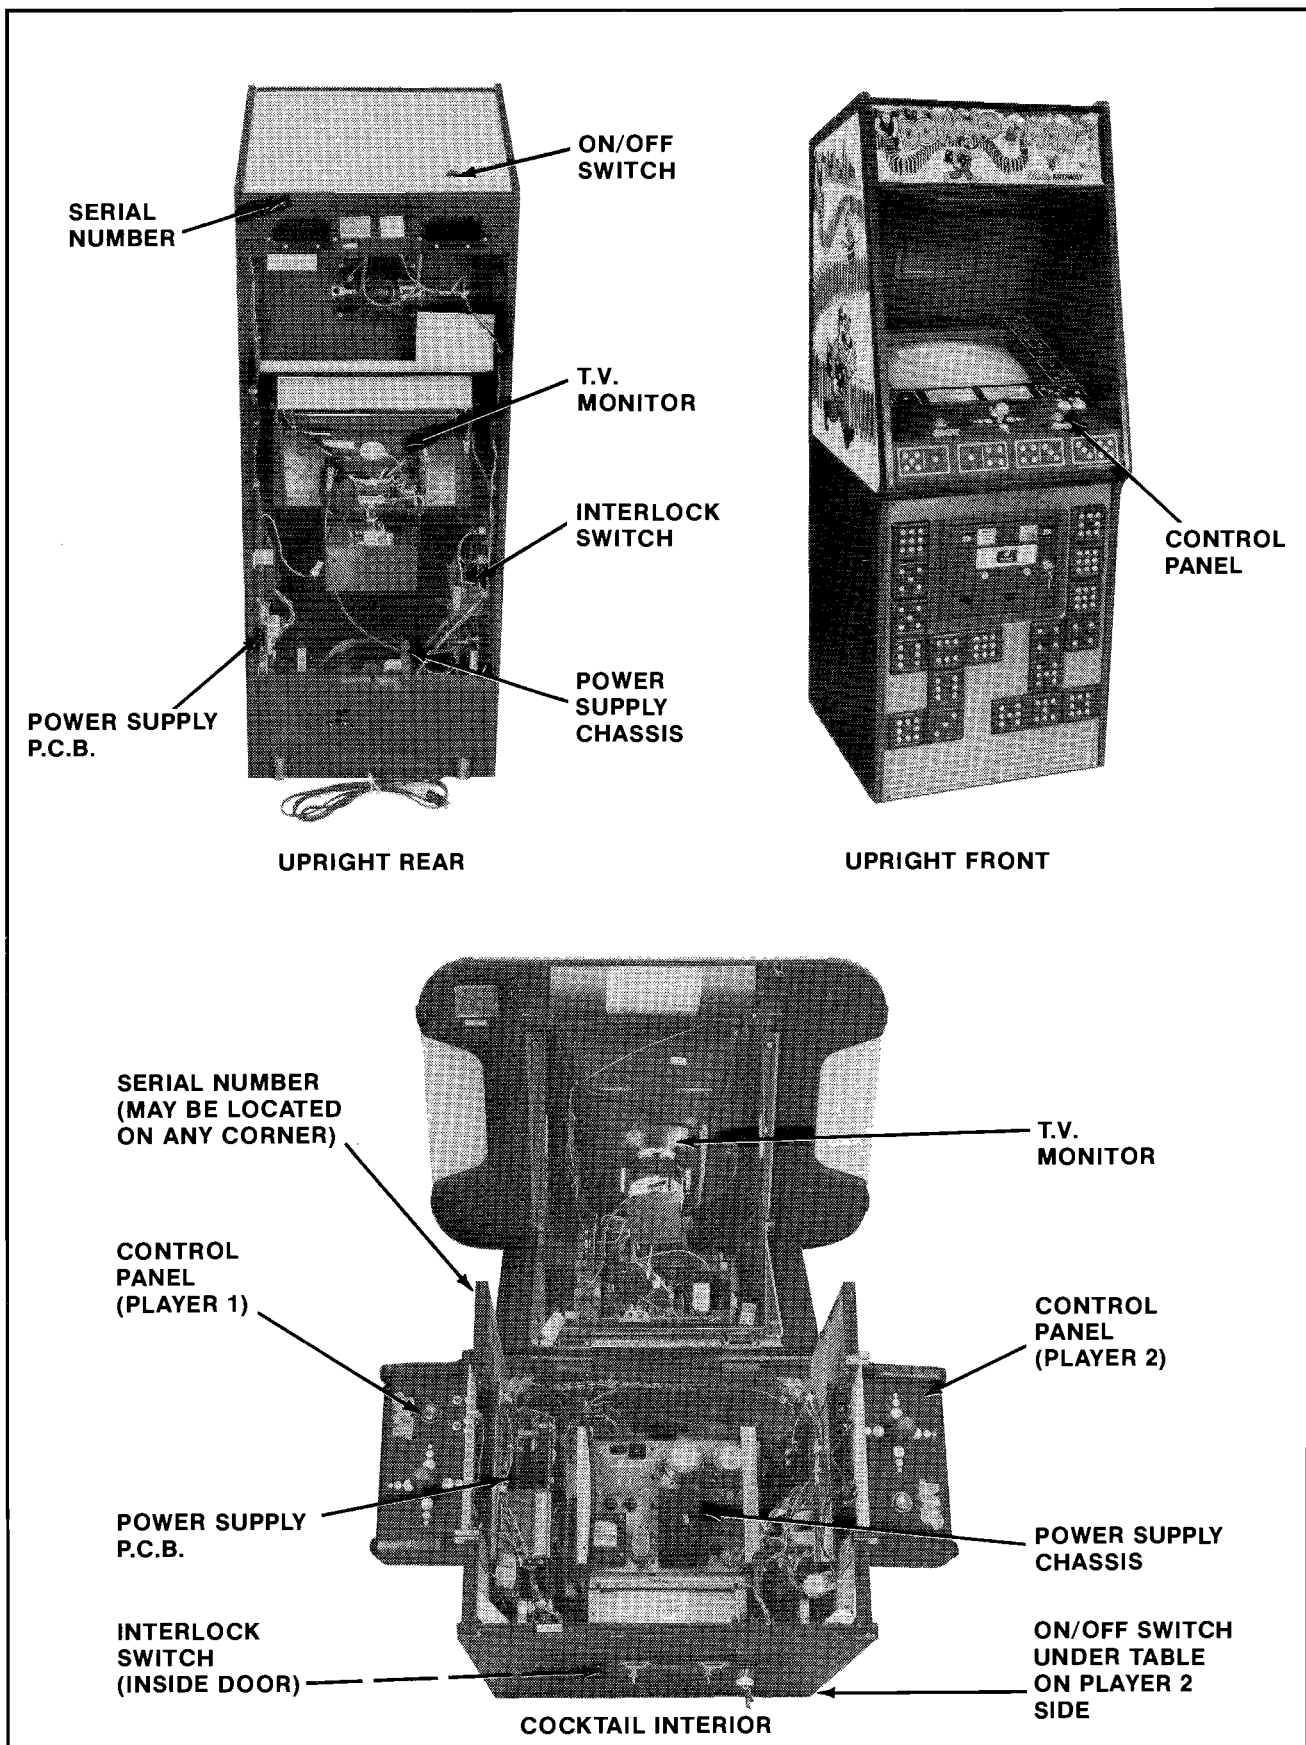

Figure 2-1 Location of Serial No., Interlock Switch, On/Off Switch, & Major Sub-Assemblies
5. Open the cabinet and inspect the inside of the game for any signs of damage. See Figure 2-1.
- Make sure all printed circuit boards (P.C.B.'s) are firmly seated in their connectors. See Figure 2-1. These connectors are also keyed. The
- Note the location of the game's serial number. See Figure 2-1.
- Check all major subassemblies to be sure they are mounted securely. These are called out in Figure 2-1.
3. Interlock and power ON/OFF switches: See Figure 2-1.
The game ON/OFF switches for both models are located as shown in Figure 2-1. Turn the game on and allow it to warm up a few minutes.